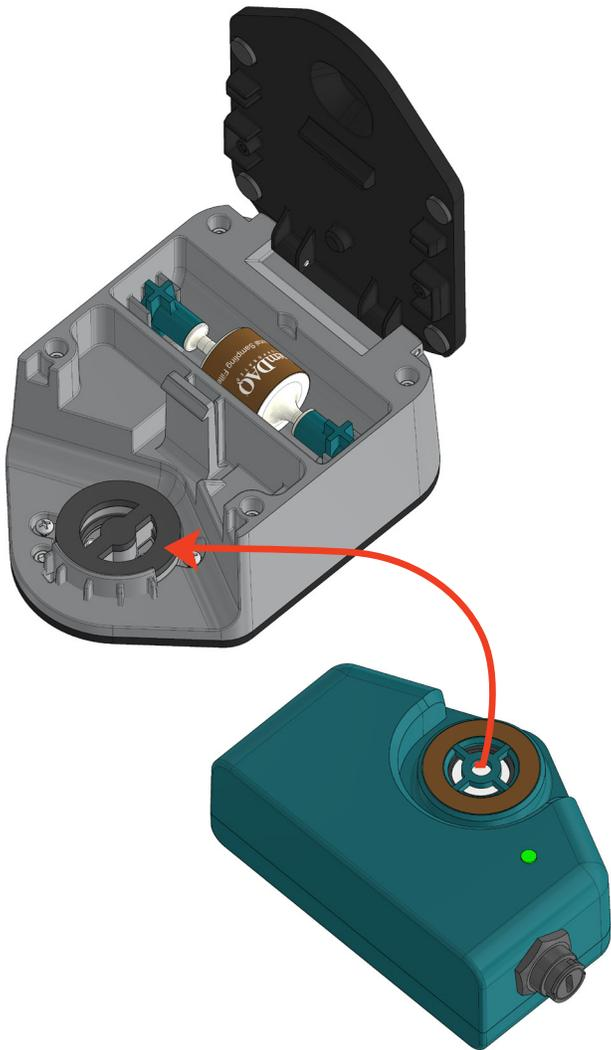

Figure 15A: Place E-Cell sensor opening against SPS cushioned sensor chamber
- b. Place the E-Cell's sensor opening against the cushioned sensor chamber inside the SPS, mating the contour of the E-Cell with the sensor chamber's shape. (See figure 15A)